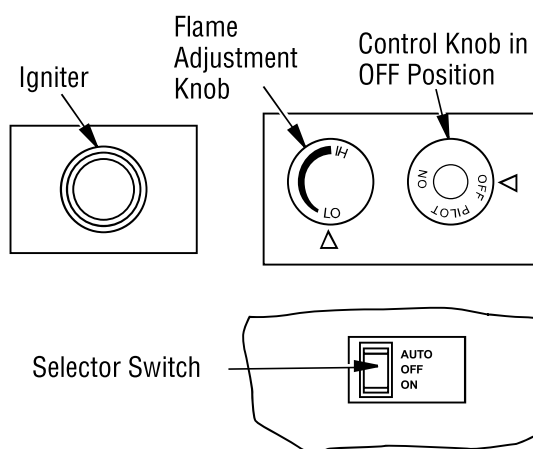

Figure 39 - Control Knob, Igniter Button and AUTO/OFF/ON Switch
4. Press in and turn control knob clockwise to the OFF position (see **Figure 39**).